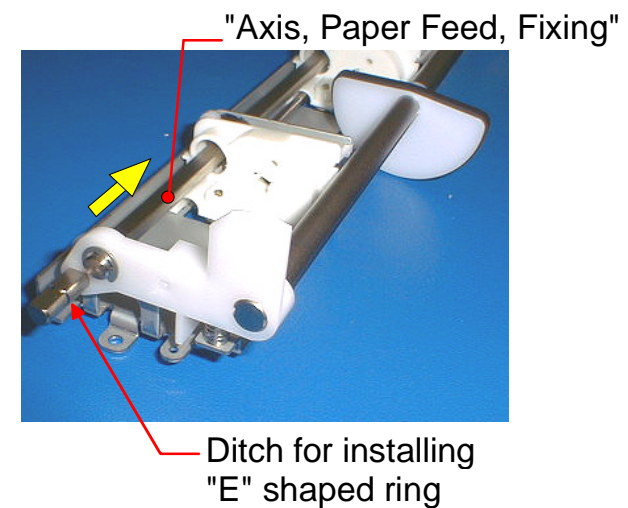

Figure 4-166. Installing "Axis, Paper Feed, Fixing"
33. From outside of "Lever, Roller, Paper Feed, Left", insert the axis edge side opposite from the side which has a ditch for installing "E" shaped ring of "Axis, Paper Feed, Fixing", and push it until it reaches the hole of "Lever, Roller, Paper Feed, Right". (See figure4-166)